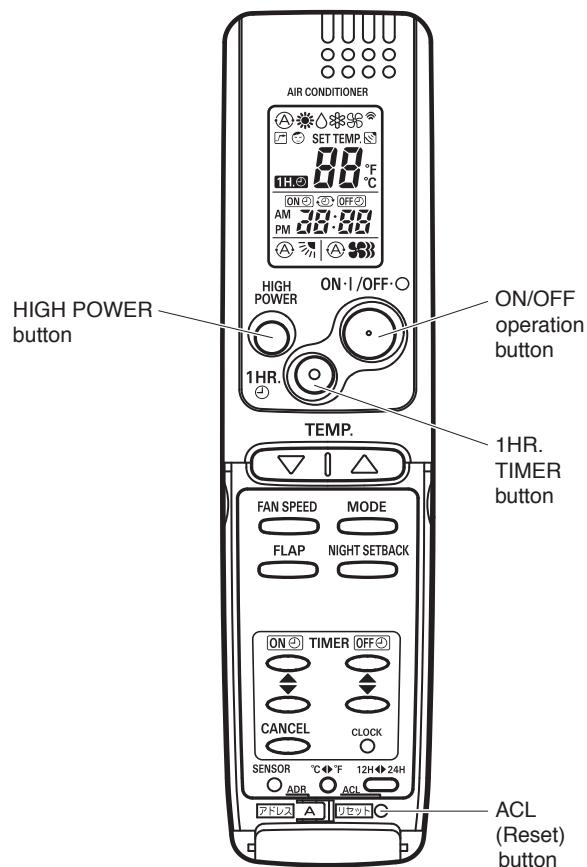

Fig. 29
- (1) Set the remote controller in Test Run mode. (Fig. 29)
- (2) Start Cooling mode test run by pressing the ON/OFF operation button of the remote controller. (Fig. 29)
- (3) Press the ON/OFF operation button of the remote controller again to stop the test run. (Fig. 29)
- (4) Finally press the ACL (Reset) button of the remote controller to release it from Test Run mode to return to normal mode. (Fig. 29)